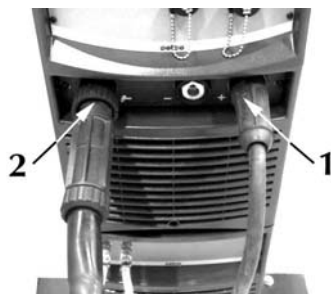

Fig. 11
- 1) Connect the earth clamp (Fig. 11) to the positive socket (+) of the generator.